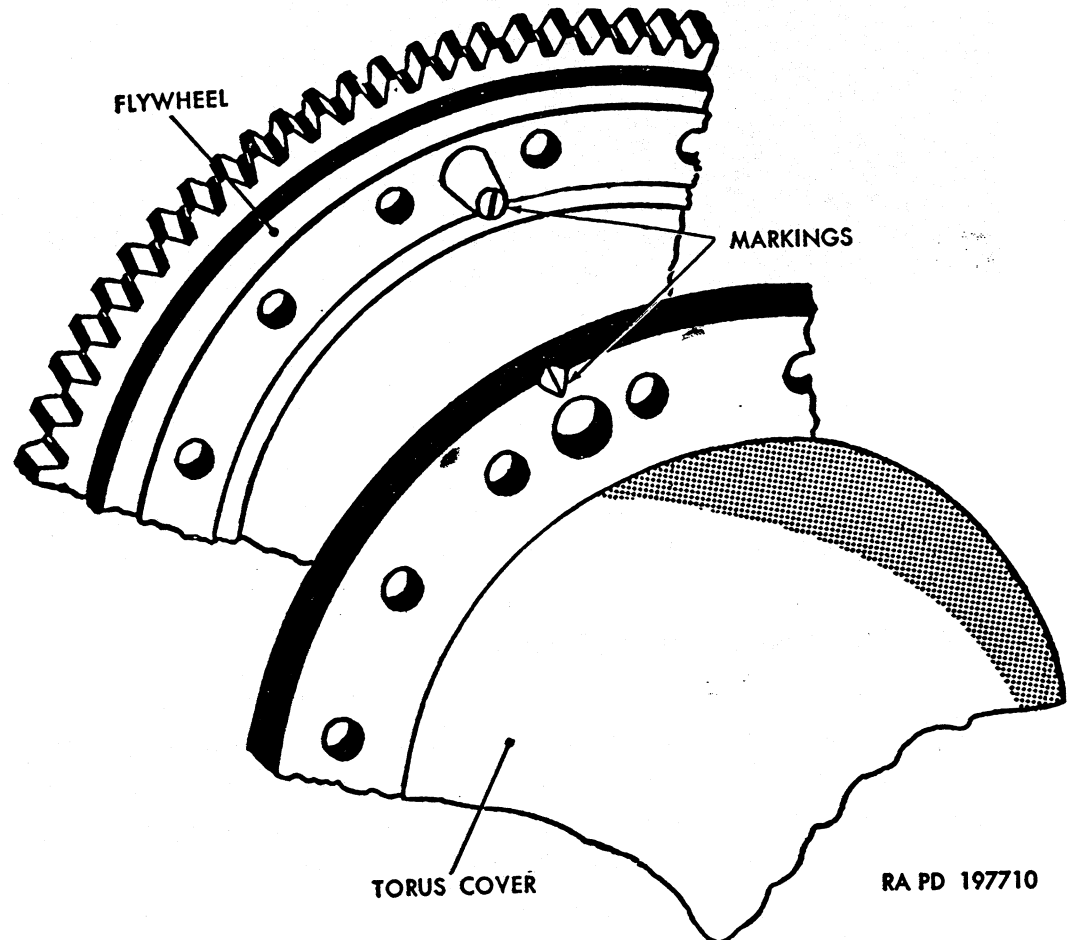

Figure 211. Flywheel and torus cover markings.
- (1) Assemble torus cover to engine flywheel, using four  $\frac{5}{16}$ -24 x  $1\frac{1}{16}$  torus-cover-to-flywheel attaching bolts and  $\frac{5}{16}$ -inch lock-washers, two at dowels and two 90° from dowels. Torus must fit freely on dowels. Tighten bolts evenly to 12 to 15-pound-feet torque.
*Note.* On some early type vehicles, torus cover can be assembled to flywheel in one position only, because flywheel dowel pins have different diameters. On late vehicles, torus cover can be assembled to engine flywheel in either of two positions, 180° apart. On these vehicles, aline dowel pin with hole in cover marked as shown in figure 211.
position and recheck runout. Runout must not exceed 0.005 inch. If runout checks satisfactorily with torus cover installed in the new position, remark torus cover and flywheel dowel so parts can be properly positioned when transmission is installed on engine. Be sure to use type of mark that will not become confused with previous mark (fig. 211).